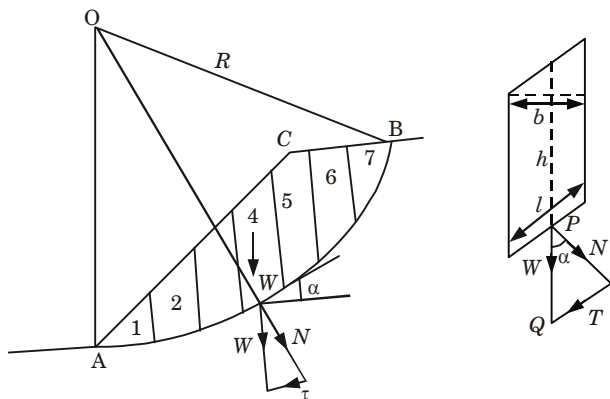

Fig. 6. $c - \phi$ analysis-method of slices.
1. In this method, the soil mass above the assumed slip circle is divided into a number of vertical slices of equal width, as shown in Fig. 6. The number of slices may vary from 6 to 12, when hand computations are to be used.